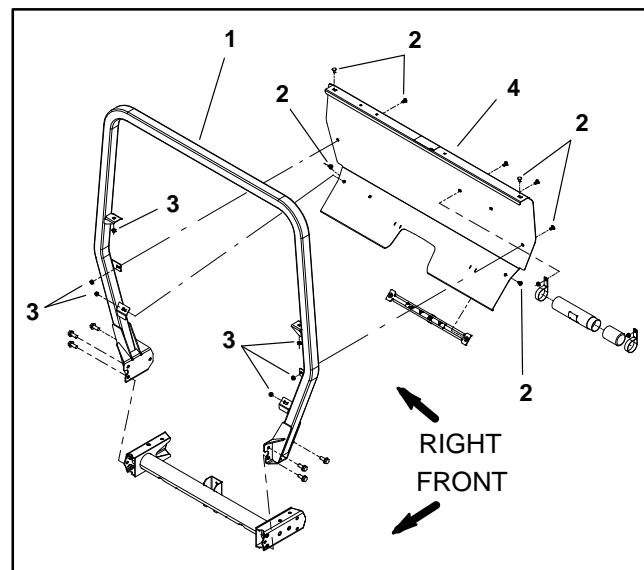

Figure 35
4. Remove six (6) carriage screws and flange nuts that secure ROPS cover to ROPS frame. Remove cover from vehicle (Fig. 35).
4. Plug shift plate (item 5) connector into vehicle wire harness. Position shift plate to seat base and secure with four (4) washer head screws. Torque screws a maximum of **12 in-lb (1.3 N·m)**.
6. Install ROPS cover to vehicle (Fig. 35).